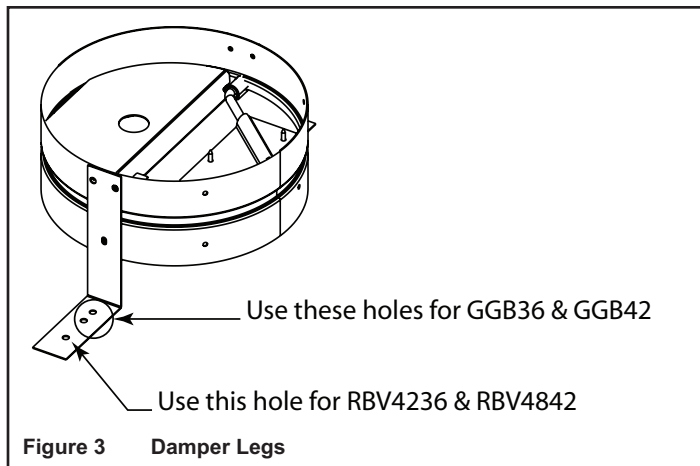

Figure 3 Damper Legs
- The damper should be oriented so that the holes located in the damper legs align with the holes in the firebox top. Refer to Figure 3.